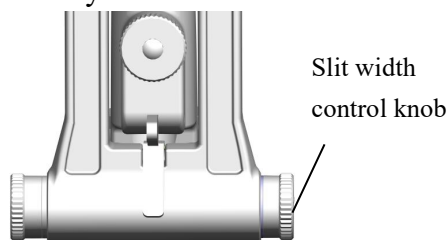
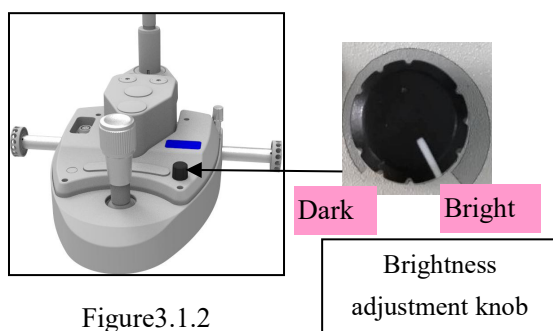

Figure 2.4.1
Figure3.1.2
2. Insert the focusing test rod and turn the slit width control knob (see Figure 2.4.1). The illumination spot should be observed on the black plane of the focusing test rod. The brightness change of the illumination should be observed when rotate the brightness adjustment knob.
5. The brightness change of the illumination should be observed when rotate the brightness adjustment knob (see Figure 3.1.2)
Turn on the main power switch and turn the brightness adjustment knob to the middle (see Figure 3.1.2). Adjust the slit width adjustment knob (see Figure 2.4.1) to make the slit width 2 to 3 mm.